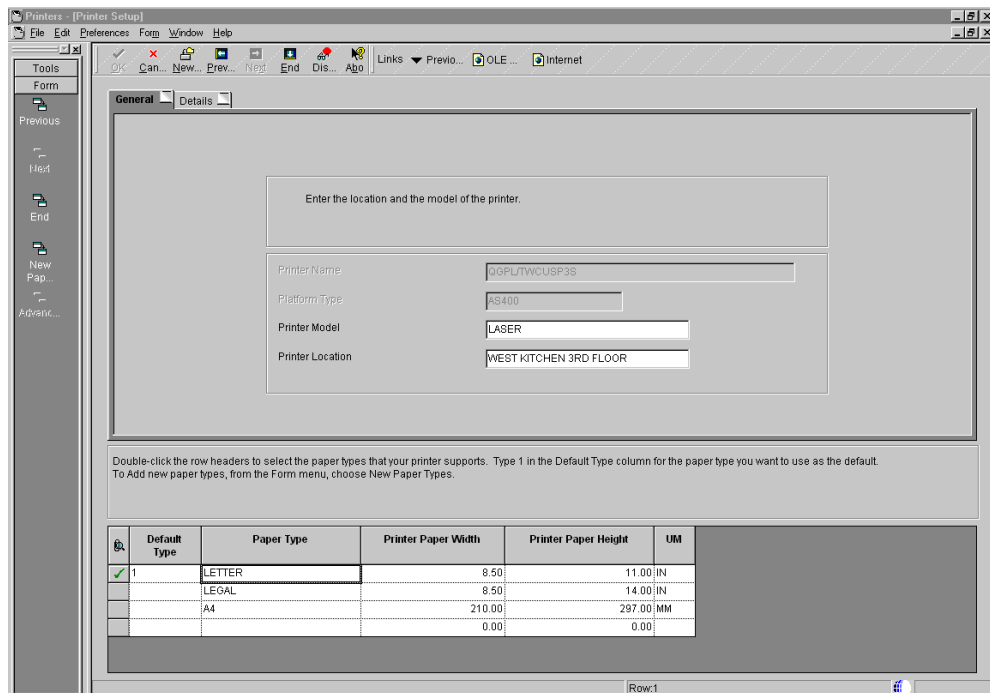

Figure 190. Printers (Platform Information) display (Part 2 of 3)
6. Enter the proper Platform Type, Library Name where the output queue resides, and the output queue Name. Then, click the **Next** button (Figure 190).